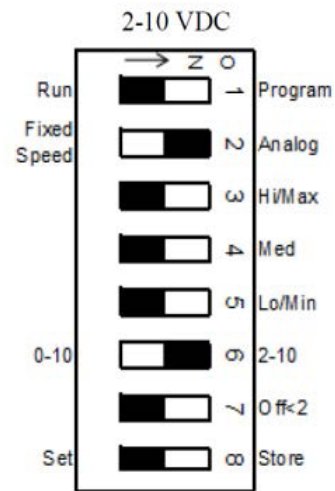

FIGURE 23 - NORMAL 2 – 10 VDC SPEED CONTROL
5. **Resume Normal 2 – 10 V DC Proportional Control:** Set configuration switches to OFF-ON-OFF-OFF-OFF-OFF-ON-OFF-OFF for normal proportional speed control, as shown in *Figure 23 on page 31*.